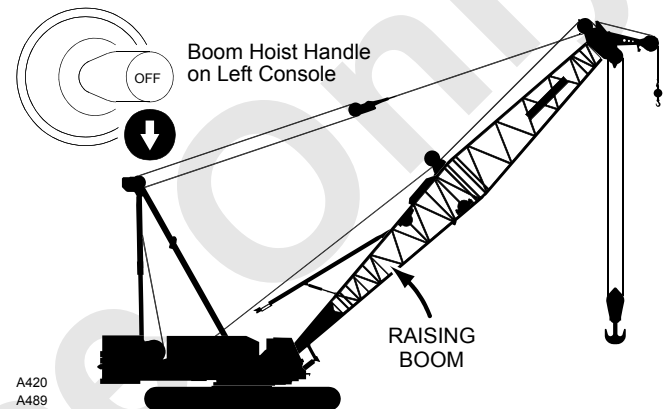
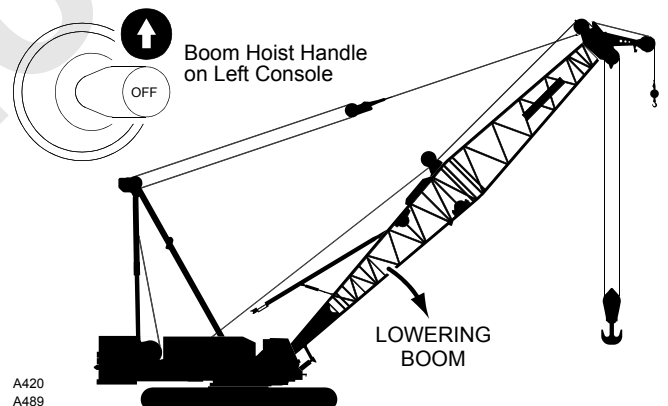

FIGURE 3-16
FIGURE 3-17
5. Move the handle to the rear to raise the boom or luffing jib (Figure 3-16). Move the handle to the front to lower the boom or luffing jib (Figure 3-17).